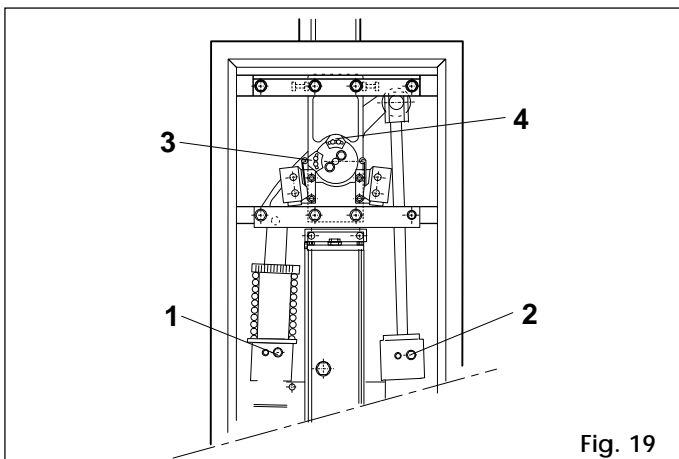

Fig. 19
- The deceleration of barrier 620 SR is factory-set. However, if small adjustments are required, turn the adjusting screws 1 and 2 in fig. 19. Turn clockwise to increase deceleration, anticlockwise to reduce deceleration. IMPORTANT: A 1/2 turn of the screw is sufficient for the adjustment.
- The ideal setting of the limit switch cams (3 and 4, fig. 19) is when the microswitch is tripped at the same time the mechanical travel limit is reached.